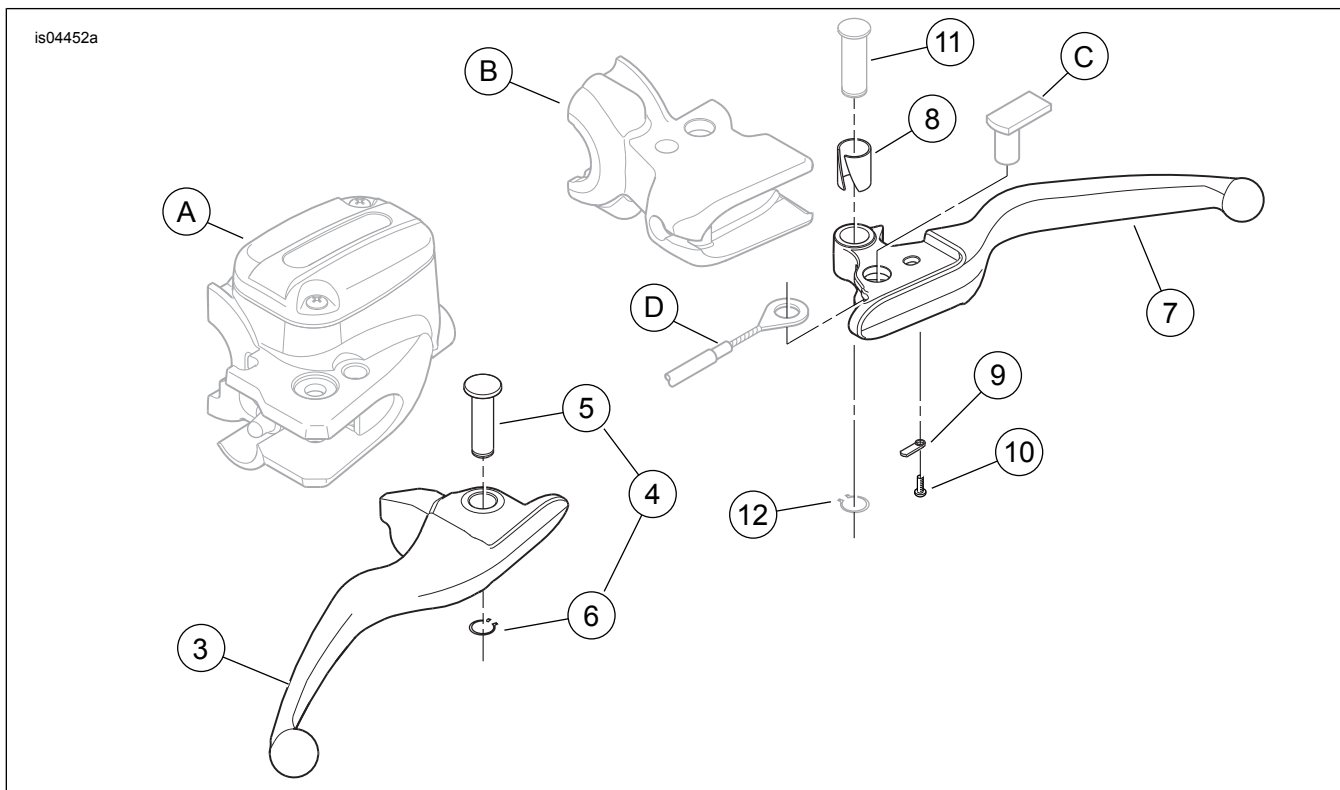

Figure 1. Service Parts: Hand Control Lever Kits
See Figure 1 and Table 1.
1. See Figure 1 and the service manual. Remove the retaining ring (6) from the groove in the pivot pin (5).
2. Remove the pivot pin from the brake lever and master cylinder housing (A). Discard the original equipment (OE) brake lever (3), pivot pin (5) and retaining ring (6).
4. Align the hole in the brake hand lever with the hole in the master cylinder bracket. From the top of the assembly, slide the **new** pivot pin (5) down through the bracket and hand lever. Check that the pushrod is properly seated on the lever.
5. Install the **new** retaining ring (6) from the kit in the pivot pin groove. Verify that the retaining ring is seated in the groove.
1. See Figure 1 and the service manual. Remove the retaining ring (12) from the groove in the pivot pin (11).
2. Remove the pivot pin from the clutch lever (7) and bracket (B). Discard the original equipment (OE) clutch lever (7), pivot pin (11) and retaining ring (12).
3. Align the hole in the clutch hand lever with the hole in the lever bracket. From the top of the assembly, slide the **new** pivot pin (11) down through the bracket and hand lever.
4. Install the **new** retaining ring (12) from the kit in the pivot pin groove. Verify that the retaining ring is seated in the groove.
5. See the service manual for clutch lever (7) adjustment procedures.